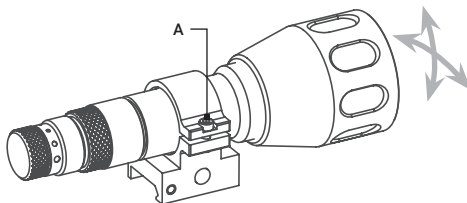

FIGURE 5. IRSPOT POSITION ADJUSTMENT
4. To adjust the IR spot position in the field of view (refer to Figure 5):
- a) Loosen the screw (A) of the clamp on the IR illuminator mount (using a 2.5 mm hex key);
- d) Once the IR spot is centered in the field of view, tighten the clamp screw (A).